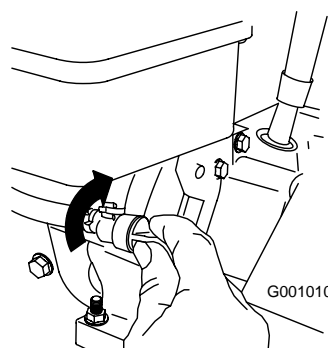

Figure 32
3. Close the fuel shutoff valve by rotating it clockwise (Figure 32).